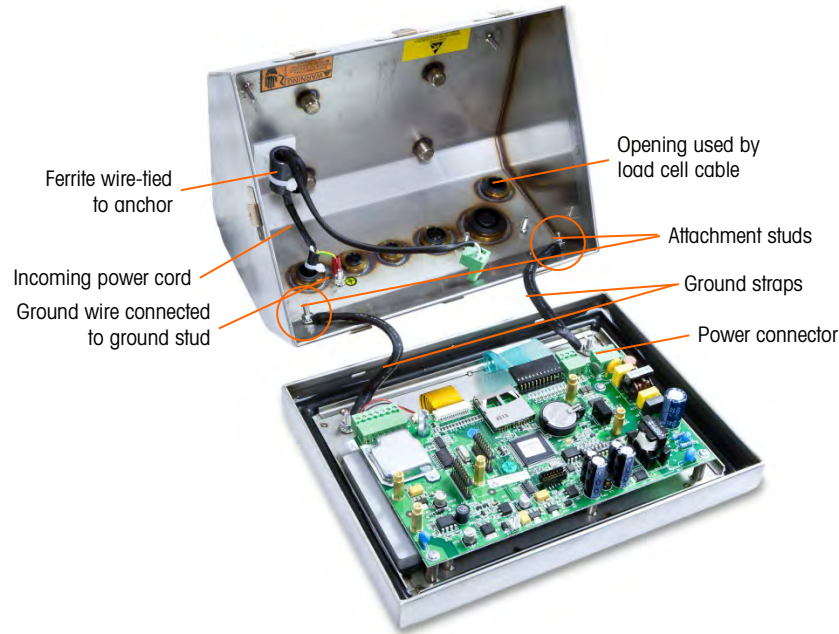

Figure 2-4: Preparing to Detach Front Panel
1. Open the enclosure as detailed in the Opening the Enclosure section. For steps 3 to 10, refer to Figure 2-4.